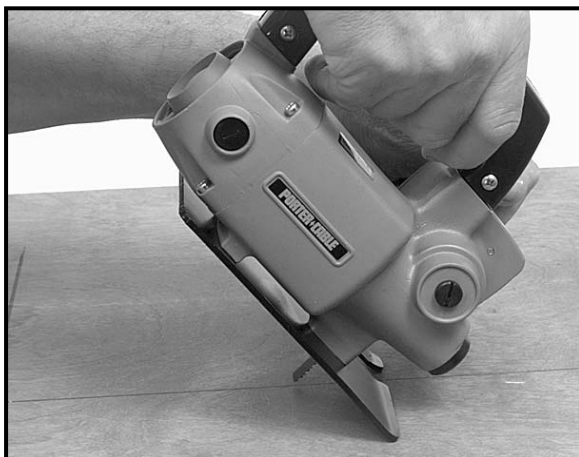

Fig. 4
**▲ WARNING** When cutting into a wall avoid contact with all exposed metal on the tool to prevent electrical shock hazard resulting from accidentally cutting into a live wire. **HOLD SAW AS ILLUSTRATED IN FIG. 4.**
First, measure the area to be cut out and mark it clearly with a pencil, chalk or scribe. Choose a convenient starting point and hold the bayonet saw over the point and inside the line of waste. Tip the machine forward until the front edge of the base rests firmly on the surface of the material with the tip of the blade clear of the work surface, as shown in Fig. 4. Turn motor "ON" and slowly lower the back of the machine allowing blade to bite into surface of work. Do not move the machine forward until the base is fully seated on the surface of the work. Now, guide the cutting along the inside of the marked area. If sharp corners are desired cut right up to the corner of the marked edge. Stop and back up just a bit, start the turn and cut along the side. Do the same at each corner until you end up where you started. Then, go back and cut into each corner from the opposite direction. The base of the machine is wide enough so you will have a solid guiding surface on either side of the cut.